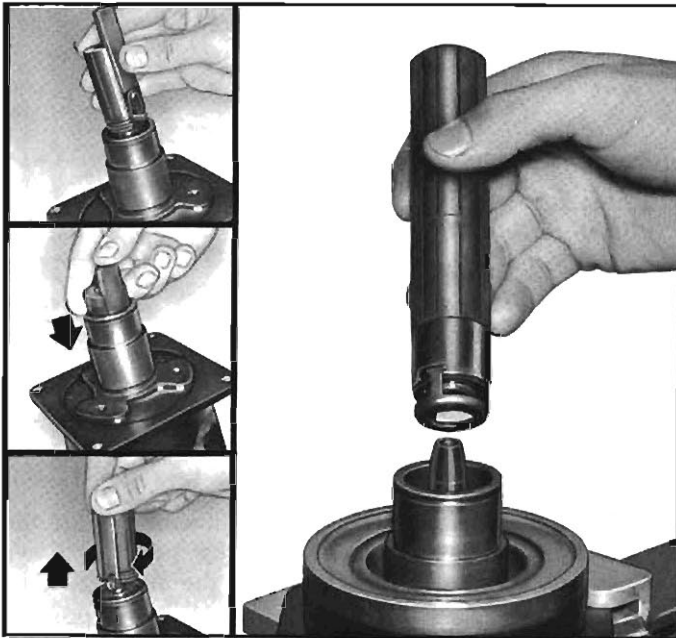

Fig. 11-42—Replacing Seal
1. Engage seal onto the locking tangs of Tool J-9392 (fig. 11-42) and, with J-21303 installed over the end of the shaft to protect the seal "O" ring, carefully insert the seal and tool over the end of the shaft. Turn seal to engage the flat on the shaft, then remove the tool.
2. Coat a new "O" ring and the interior of the seal cavity, shaft and seal with clean refrigeration oil and, using Tool J-21508 as shown in Figure 11-42, install the "O" ring in its groove just above the seal.
To install the "O" ring: place "O" ring on the tool as shown in Fig. 11-42, insert the tool fully into front head bore, press down the slider, twist the entire tool to seat the "O" ring and then remove the tool.